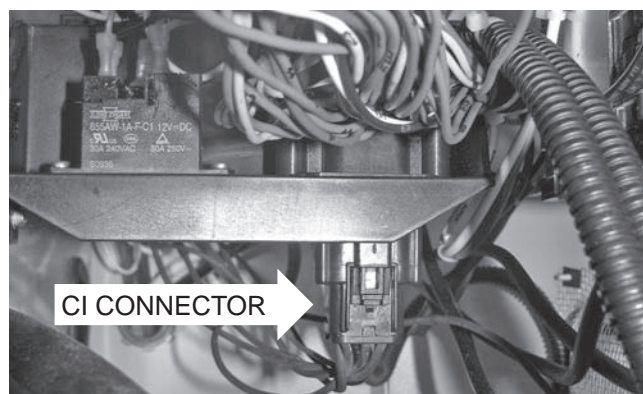

Figure 52. C1 Connector
7. Disconnect the lower bulkhead C1 connector (Figure 52).